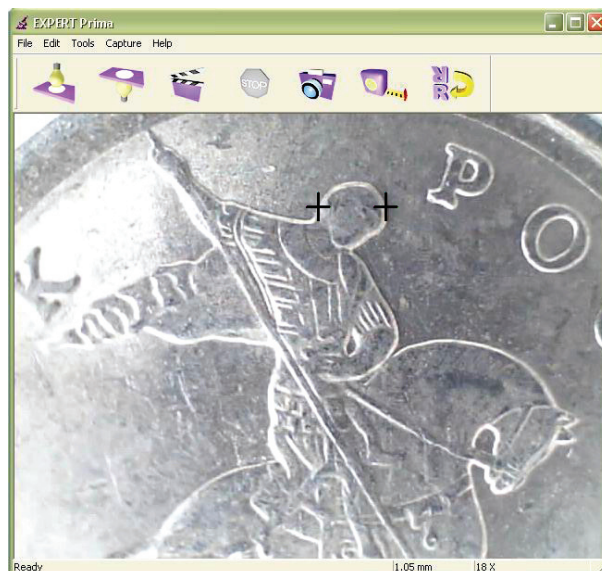

Fig.11. Linear size measurement.
- o The measured value of the distance will be displayed in the bottom field of main user's interface (fig.11).